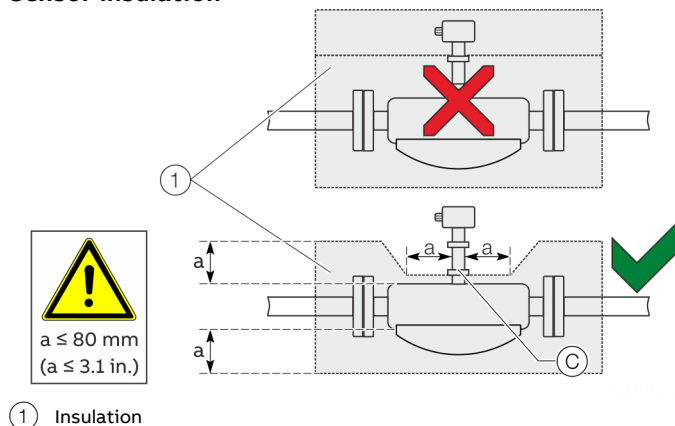

Figure 10: Installation at $T_{\text{medium}} -50^{\circ}\text{ to }205^{\circ}\text{ C }(-58\text{ to }400^{\circ}\text{ F})$
The sensor may only be insulated in conjunction with the option TE1 'Extended tower length for sensor insulation' or TE2 'Extended tower length – insulation capacity with dual gasket,' as shown in Figure 10.
When operating the sensor in conjunction with heat tracing, the temperature at point ③ (Figure 10) $100^{\circ}\text{ C } (212^{\circ}\text{ F})$ may not be exceeded at any time!